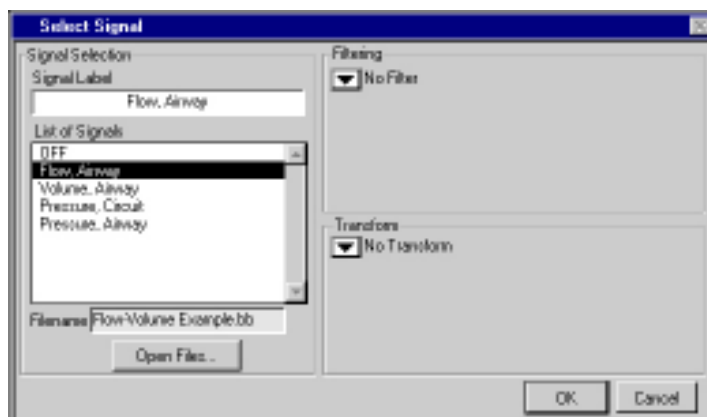

Figure B-23. Select Signal Dialog Box (Flow-Volume Example File)
- Click on the **OPEN** button. You return to the Select Signal dialog box. Figure B-23 illustrates the Select Signal dialog box for the Flow-Volume Example data file.